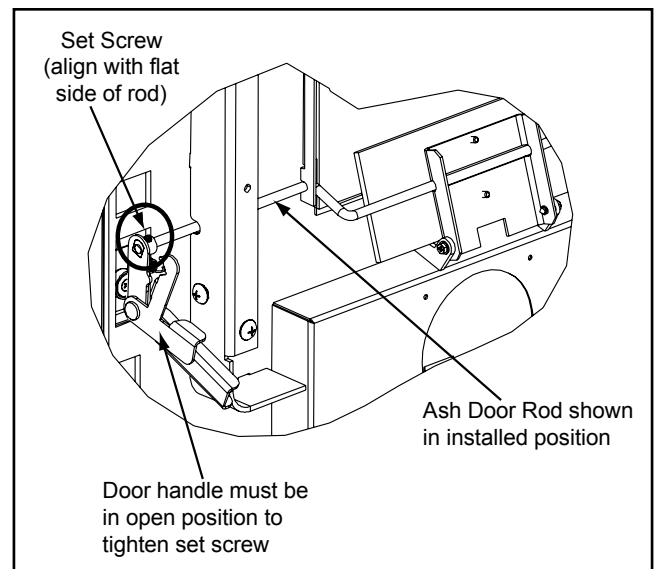

Figure 21.3
5. Using a 3/32 Allen wrench tighten the set screw in the door handle. The set screw needs to be snug. **Figure 21.3.**